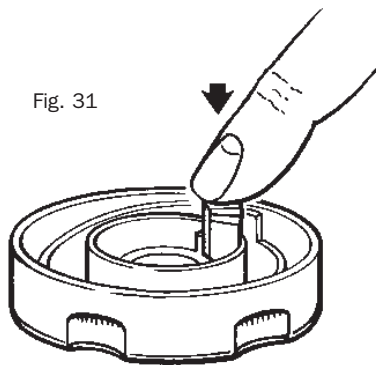

Fig. 31
- iv) Replace temperature “limit stop” into control knob as shown in Fig. 31, making sure to locate to the right hand side of the barrier, with the cutting guides facing upwards, but not into the knob. The “limit stop” will easily fit back into place, if not it is the wrong way round.